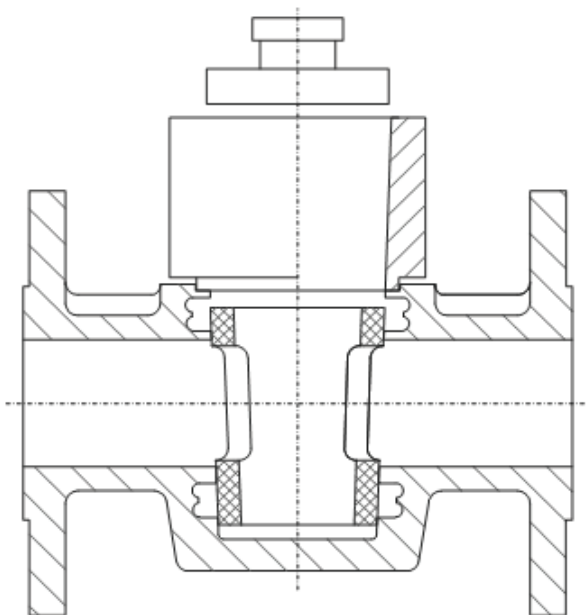

Fig. 3
4. Re-Install Sleeve (fig. 3 + 4)
Heat covered sleeve to 90°C for 30 min. Mount charging ring on cover center bore. Install uncovered sleeve slightly offset into charging ring so that sleeve can fit to the vertical ribs. Press sleeve to bottom by means of contact pieces under the ribs on upper port of the body (fig. 3 + 4).